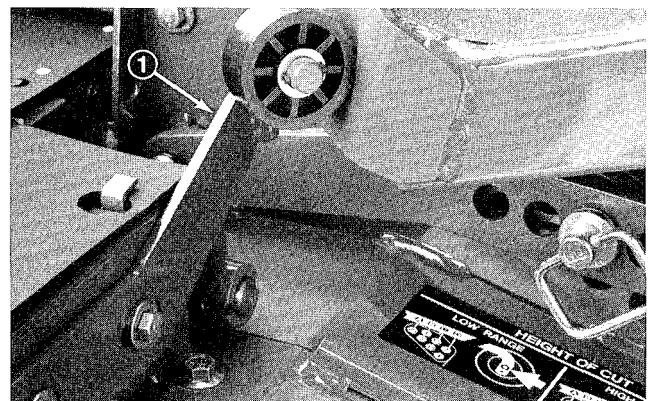

Figure 70
5. Loosen screws to allow neutral device bracket to move; but not freely (Fig. 70). Adjust neutral device bracket so that 40± in-lb of torque on control lever just starts to rotate lever. Tighten screws.